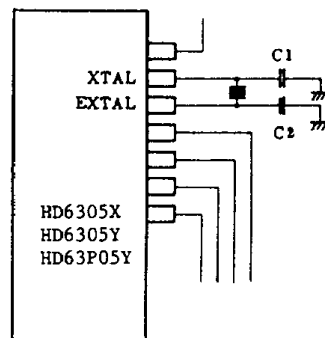

Figure 39 Design of Oscillation Circuit Board
- Board design of situating signal lines or power supply lines near the oscillator circuit as shown in Fig. 40, should not be used because of trouble in oscillation by induction. The resistor between the XTAL and EXTAL, and pins close to them should be 10MΩ or more. The circuit in Fig. 39 is an example of good board design.